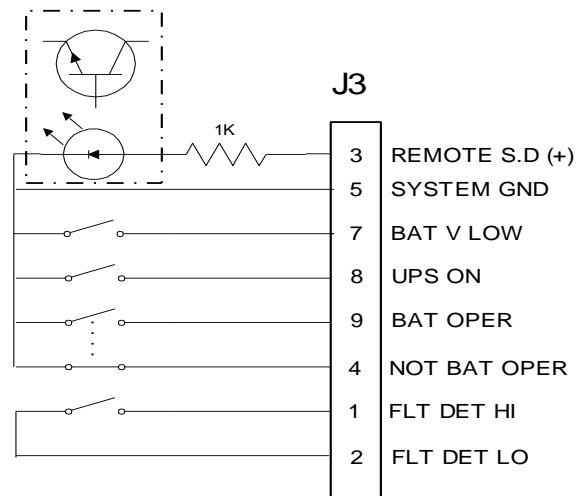

Figure 9 - Dry Contacts
Dry Contacts Interface is available through connector J3 (32), a D-Type 9P connector located on the back panel. This interface allows control and monitoring of the UPS by a server that does not have Ethernet or serial interface provision. Figure 9 below shows the dry contacts interface circuits. The pin assignment of J3 is shown on the next page.